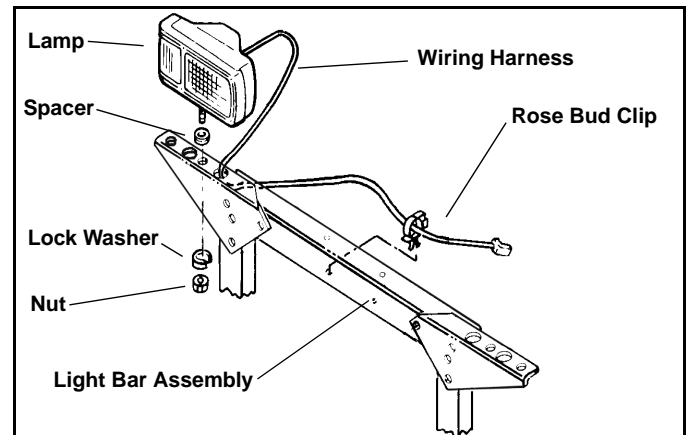

Figure 8
2. Mount Lamps on Upper Channel Assembly. (See Figure 8)
3. Pass Wire Harness attached to Lamps through holes in Upper Channel Assembly. (See Figure 8)
5. Attach Plow section of Wire Harness to Upper Channel Assembly with Rosebud Clips provided. (See Figure 8)